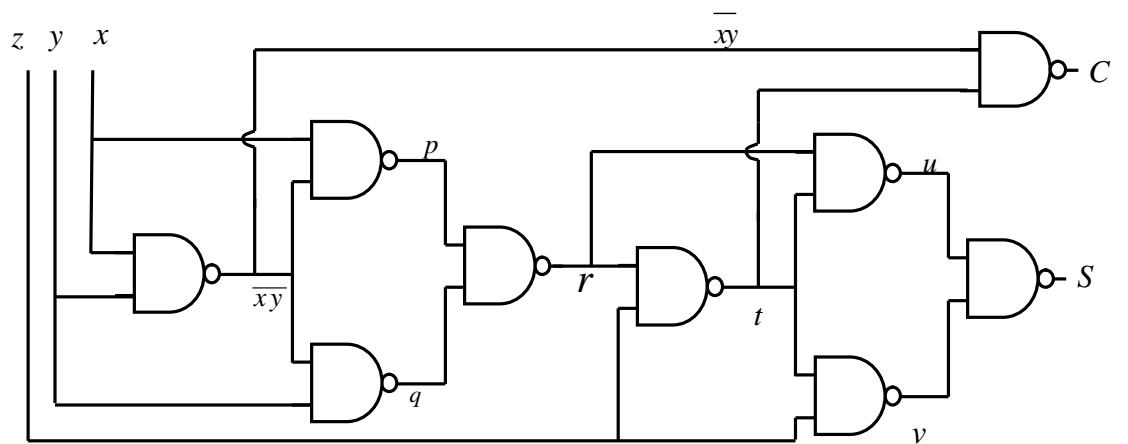

Figure 10.3B
**Implementation of full adder (see figure 10.3B) using NAND gates can be explained as:**
(III) Implementation of full adder using NAND gates only (figure 10.3B):